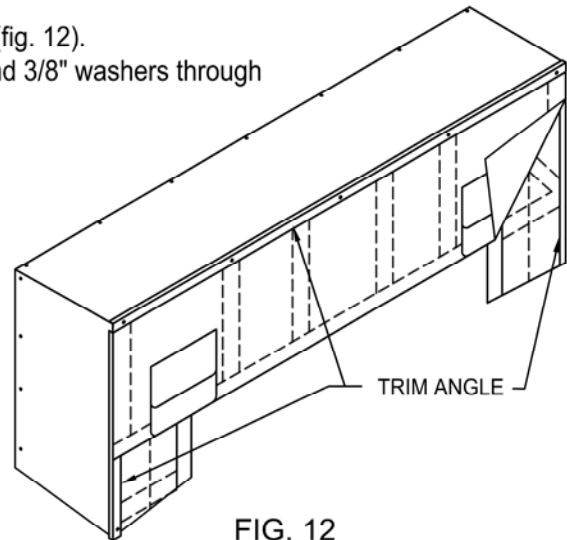

FIG. 12
- * Position trim angles over top edge of head curtain (fig. 12).